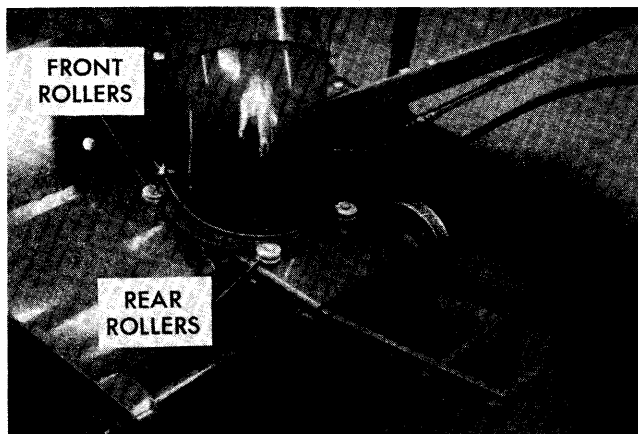

Figure 1
1. Install the mounting frame assembly by inserting the end with the four bolt holes into the blower housing frame. The arms should extend upward from the blower housing as shown in figure 1. Use the bolts and nuts provided to secure in place.
2. The shroud assembly is held by four rollers on top of the blower housing as shown in figure 1. To install the shroud, loosen and slide the two rear rollers back, fit the collar of the shroud into the front roller grooves, and move the rear rollers forward to fit snugly against the collar. Tighten the bolts, making sure the shroud rotates freely.
3. Attach the crank and support assembly to the blower housing and support bracket with the pre-installed bolts, nuts, and reinforcement plates. Place one of the plates (19) inside the blower housing and the other on top of the crank support mounting tab. Remove both preinstalled cotter pins (23) and the lower washer (7) from the crank. Insert the end of the crank rod through the hole in the support bracket and reinstall the washer (7) and cotter pin (23). Compress spring (24) against the end of the crank support and reinstall cotter pin (23) above the upper washer (7).
The top extension plate mounts on the blower housing with carriage bolts, nuts and washers, provided as shown in figure 1. The side extension plates illustrated in figure 1 are accessories to increase the effective width of the snow thrower. They are available from your Wheel Horse dealer under part #8-0221.